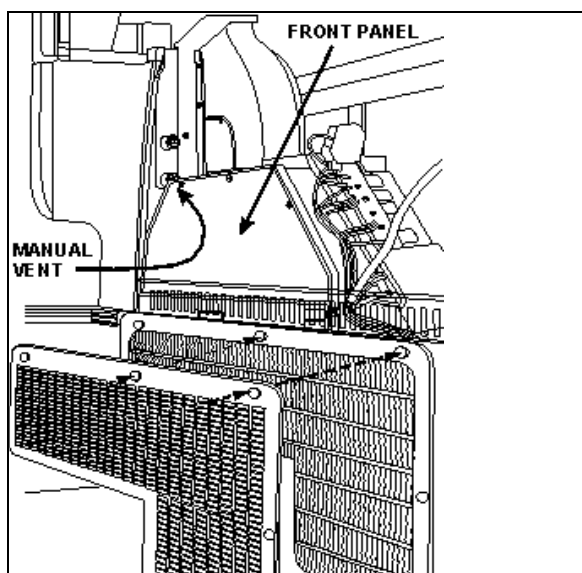
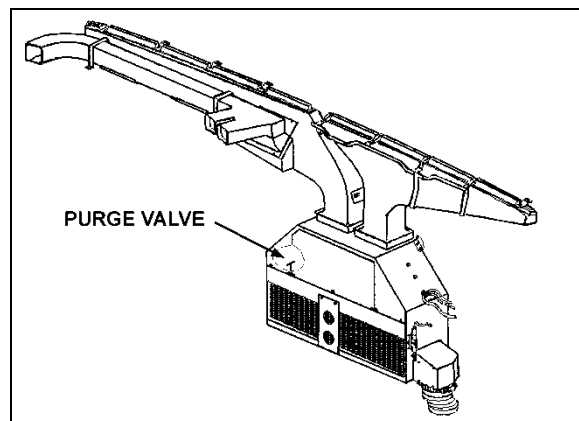
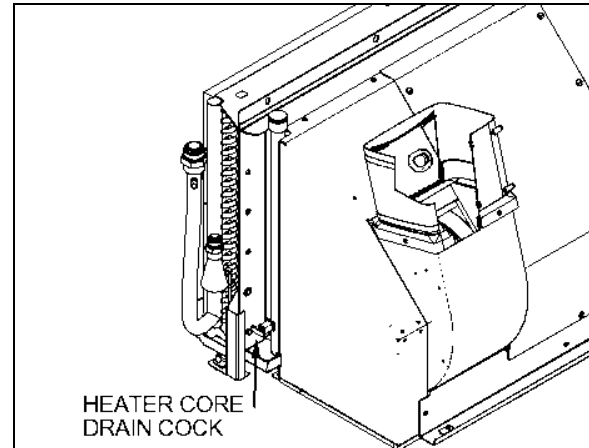

FIGURE 68: DRIVER'S HVAC/DEFROST UNIT
FIGURE 69: DRIVER'S UNIT AIR MIXING BOX
FIGURE 74: HEATER CORE DRAIN COCK LOCATION
Fresh air is taken from behind the R.H. side headlights assembly (H3 series) or from a plenum underneath the front service compartment (X3 Series) and enters the mixing box through a ON/OFF damper. Return air is taken through the right console into the mixing box (Figure 69). Mixed air goes through cooling and heating coils, fans and discharge ducts.
4. From inside of vehicle, remove the two finishing panels in front of unit. Remove the three screws fixing the unit front panel. Open the purge valve located inside the driver's unit (Figure 69). If present, open the manual vent located inside the HVAC unit, on the driver's side (Figure 68) to ensure an efficient draining.
4. Open drain cock in bottom of heater core (Figure 74) you can unfasten a hose connection on top of heater core in order to allow air to enter while draining. The main heater core drain cock is located in the evaporator compartment. To access the valve, open baggage compartment door located in front of the evaporator compartment (L.H. side). Open the evaporator compartment access panel.
Locate the purge valve illustrated in Figure 69 & Figure 74, and open them momentarily until no air escapes from the lines. If present, open the manual vent located inside the HVAC unit, on the driver's side (Figure 68).